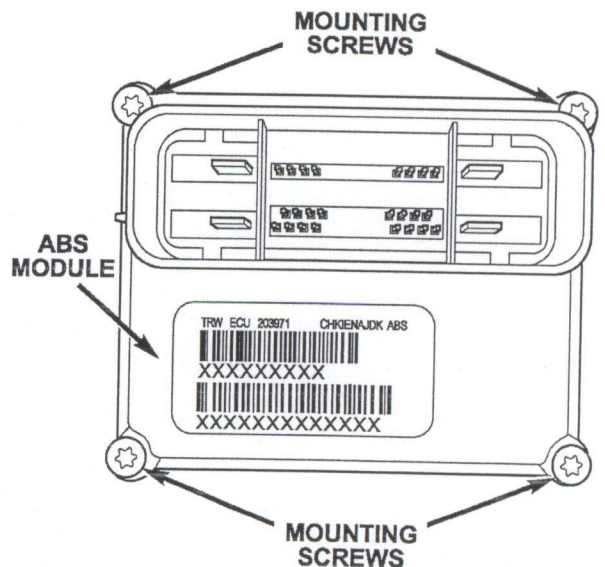

Figure 4
7. Install the new ABS control module mounting screws included in the kit (Figure 4). Tighten the screws to 35 in. lbs. (4 N·m).